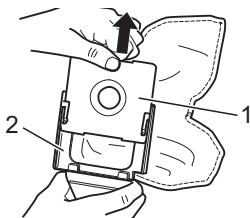

Fig. 19
5. Pull the dust filter bag (Fig. 19/1) out of the dust bag holder (Fig. 19/2).